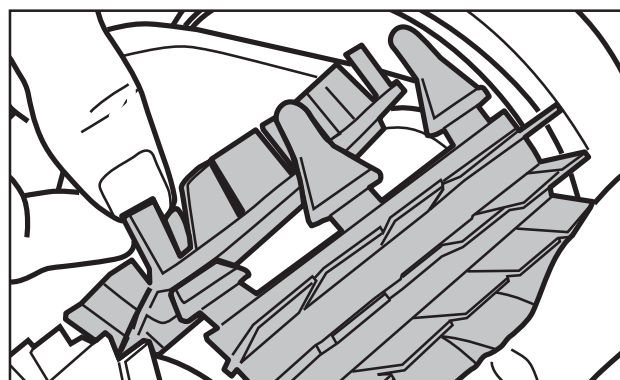

Figure 16. Pull Tabs Through Each Slot
3. Thread each tab into the slot provided and gently feed it through until the heel comes out at the other side of the slot. Refer to Figure 16.